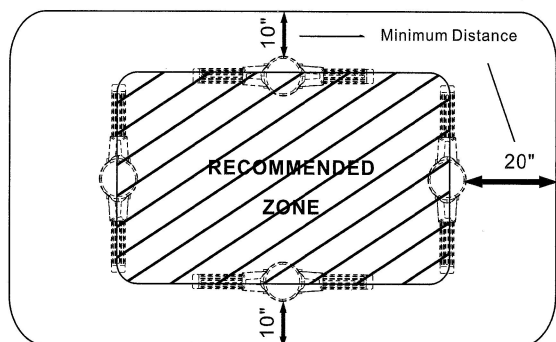

FIG 1.
STEP 1: Choose a right location for the antenna. The antenna would better to be away from any other metal objects which might interfere the reception result. (Refer to FIG 1.)